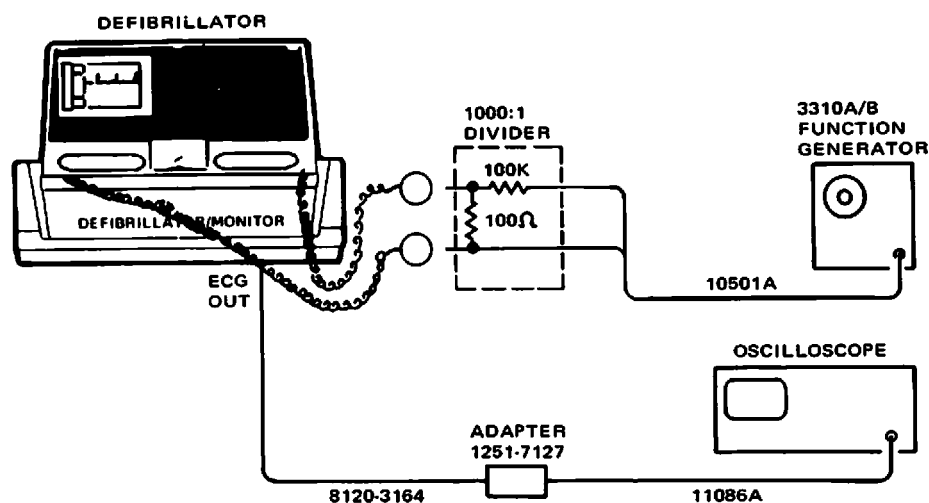
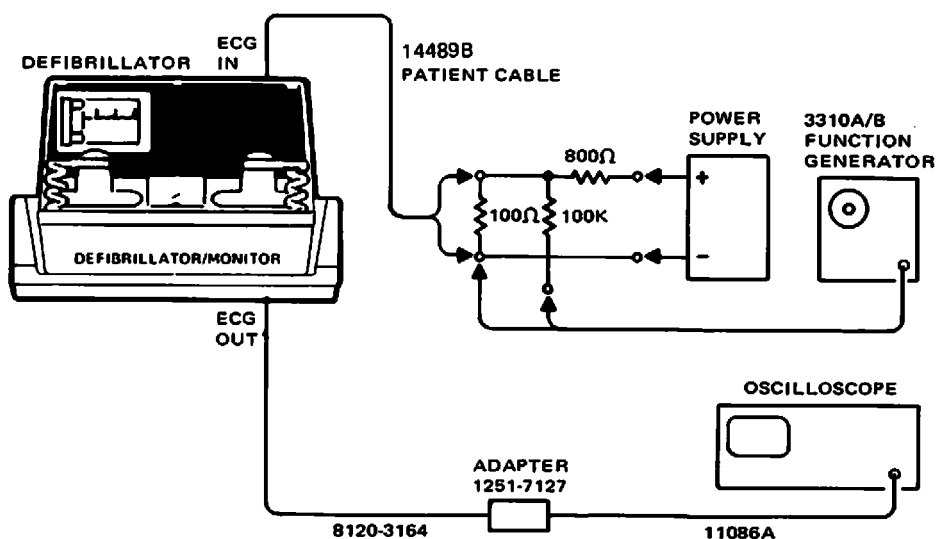

Figure 3-15. ECG Amplifier Frequency Response Setup (Paddles).
Figure 3-16. Input Offset Tolerance (DC) Leads Test Setup.
2. Connect the test equipment as shown in Figure 3-15.
1. Connect the test equipment as shown in Figure 3-16.
1. Connect the test equipment as shown in Figure 3-16. Instead of connecting to the ECG INPUT, connect to the paddles as shown in Figure 3-15.